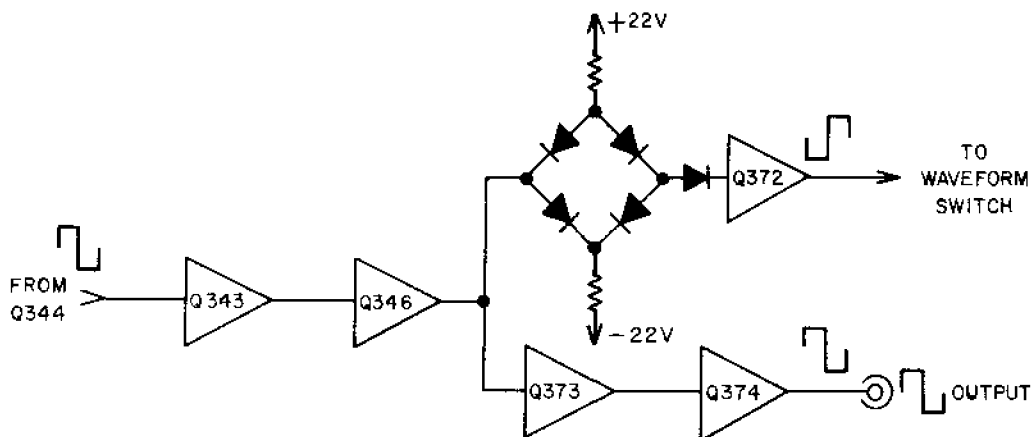

Figure 7. Square Wave Amplifiers
4.5 SQUARE WAVE AMPLIFIERS (See Figure 7)